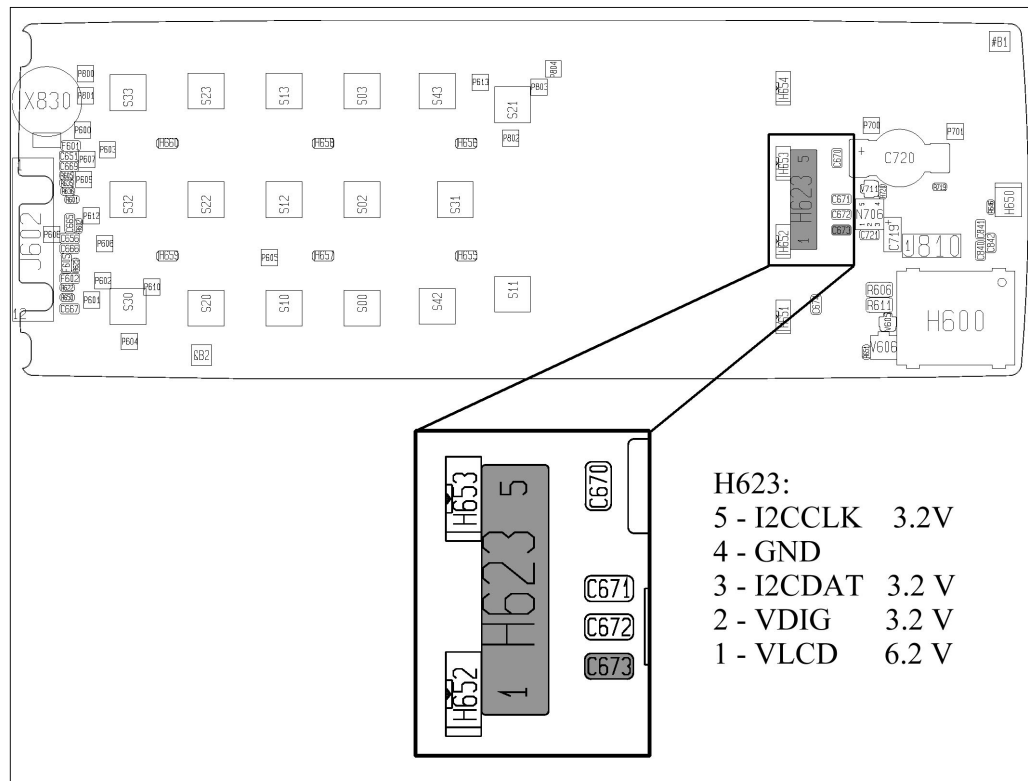
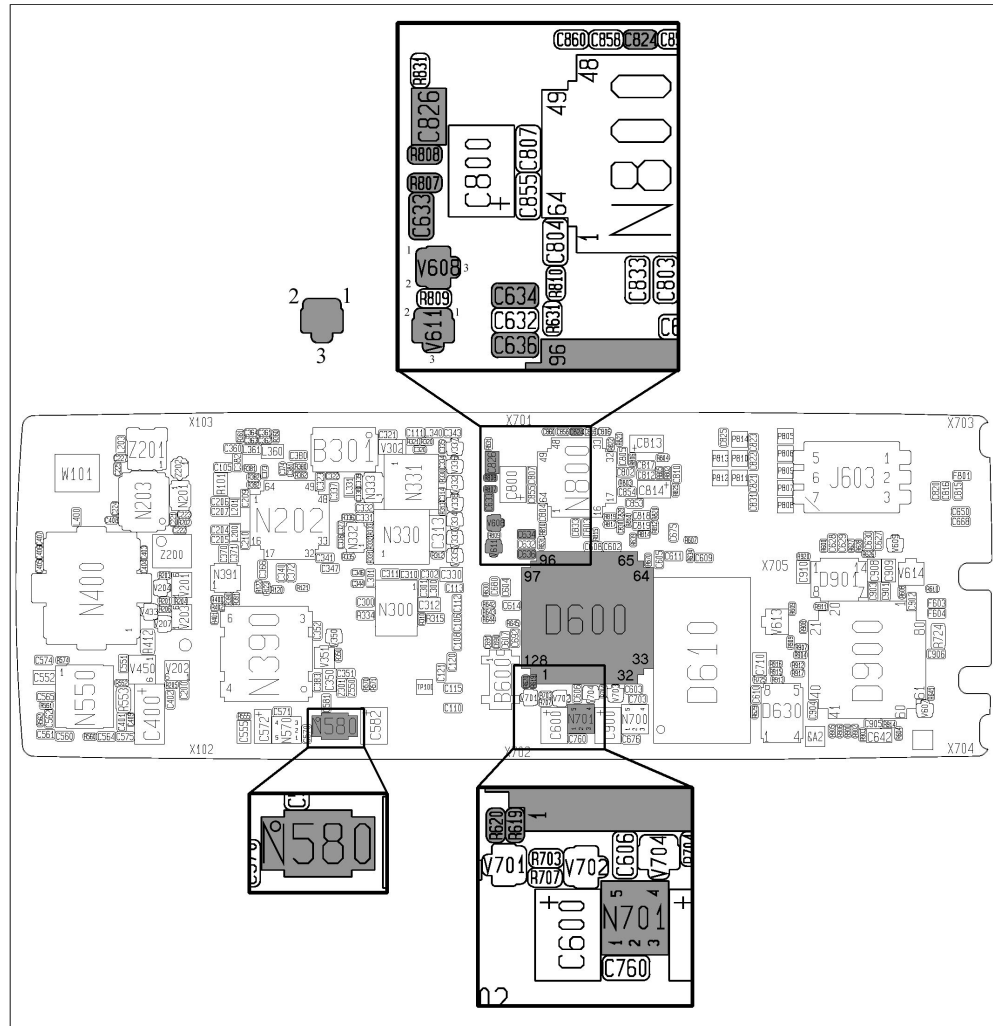

Fig. 5.1
Fig. 5.2
Give the board power and start it in the fixture. Make sure the voltages at the connection H623 are correct (fig. 5.1).
**1 - VLCD (~ 6.2 V)** is incorrect, diode measure V608:1-3, V611:1-3 and V611:2-3 (fig. 5.2). Replace if faulty.
- If the voltage is missing, make sure N580 (fig. 5.2) is correctly soldered, if it is replace N580.
- If it is <100 kOhm, replace C633 (fig. 5.2) and C673 (fig. 5.1).
- If any of the voltages are incorrect, measure the resistances of C634 and C636 (fig. 5.2) to make sure there isn't a short circuit. Replace if faulty. If C634 and C636 are correct, replace D600.
**2 - VDIG (~ 3.2 V)** is incorrect, replace N701 (fig. 5.2). If that doesn't work, send the phone to the next repair level.
**3 - I2CDAT (~ 3.2V)** is incorrect, measure the resistance of R619 (6.8 kOhm, fig. 5.2). Check the soldering at D600:3. If all is correct, replace D600.
**5 - I2CCLK (~3.2 V)** is incorrect, measure the resistance of R620 (6.8 kOhm, fig. 5.2). Check the soldering at D600:4. If all is correct, replace D600.
Open the phone and check for liquid damages. Try again using a display you know is correct. If the fault remains, measure the resistance of R808 (33 kOhm, fig. 5.2). If the resistance is very low, replace C824 and C826, otherwise replace R807 and R808 (all in fig.5.2).